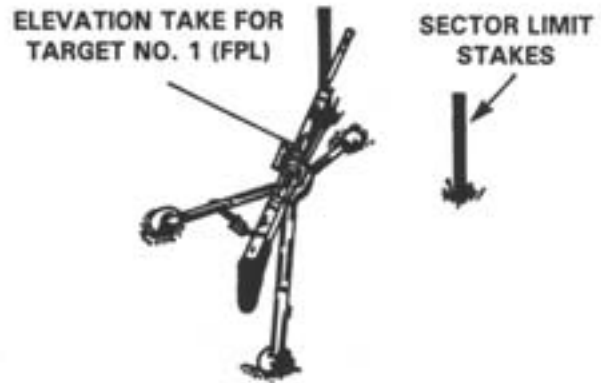

Figure 6-31. Field Expedient—Base Stake Method.
(1) **Base stake method.** The base stake method is the simplest and most useful field expedient. Stakes are used to define the sector limits and the FPL. A stake is driven into the ground under the gas cylinder to pick up the elevation needed to fire the FPL (see figure 6-31). Note that the T&E mechanism is still in use. This field expedient in particular will seriously limit the ability to quickly and effectively engage targets outside the sector.